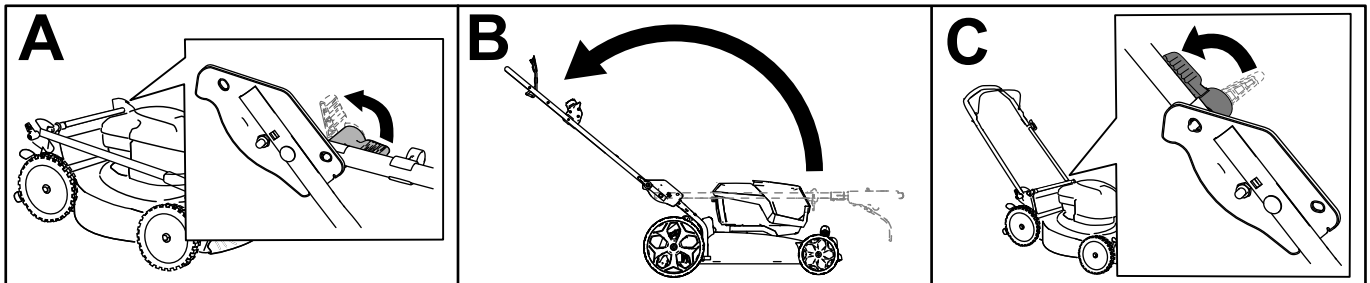

Figure 4
1. Unlock the handle locks (A of Figure 4).
2. Move the handle rearward to the operating position (B of Figure 4).
4. Engage the handle lock until the pin clicks in place to lock the handle into the operating position (C of Figure 4).